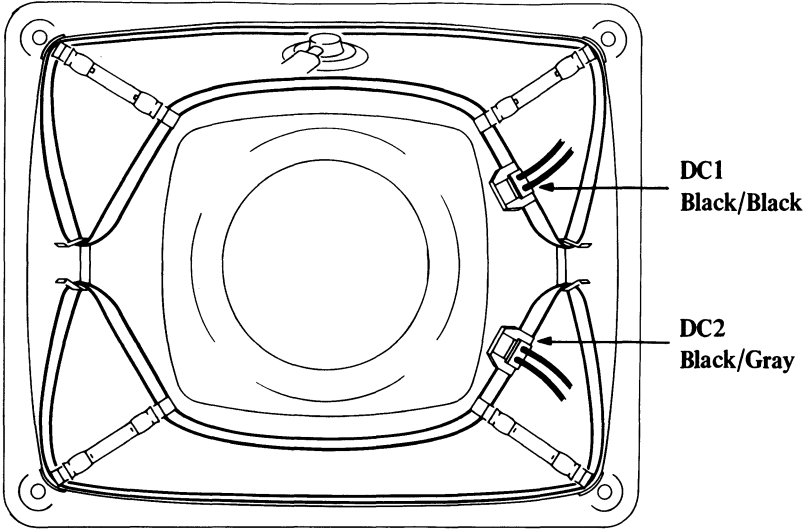

Figure 5-58. Degauss Coil Connectors DC1 and DC2
8. Remove connectors DC1 and DC2 from the degauss coils on the CRT (see Figure 5-58 on page 5-86). It may be necessary to partly remove the deflection card to get access to these connectors.